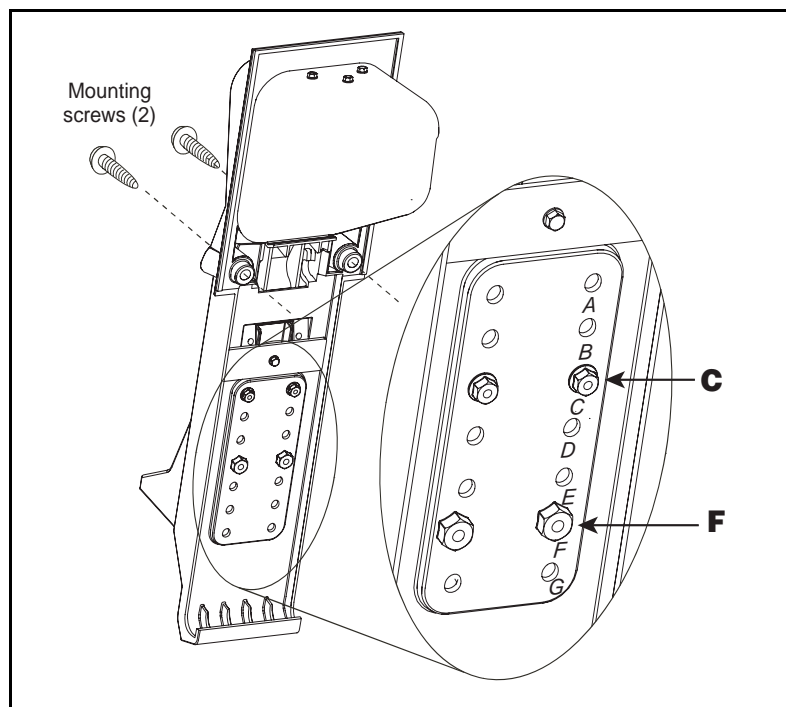

Figure 5. Gilbarco Encore Hook Repositioning
1. Loosen two nozzle boot mounting screws. (See Figure 5) using 1/4" square tip driver. Note: Save nozzle boot mounting screws for use later.
2. See Figure 5 to identify existing nozzle hook retaining screw and nut locations. Identifying marks are located under right hand row of indented hole locations. Standard nozzle hook locations are positions A & D.
1. The hook should be lowered two (2) positions until the upper screws are in position "C" and the lower bolts are in position "F". See Figure 5 to identify nozzle hook retaining screws and nuts locations. Identifying marks are located under right hand row of indented hole locations.